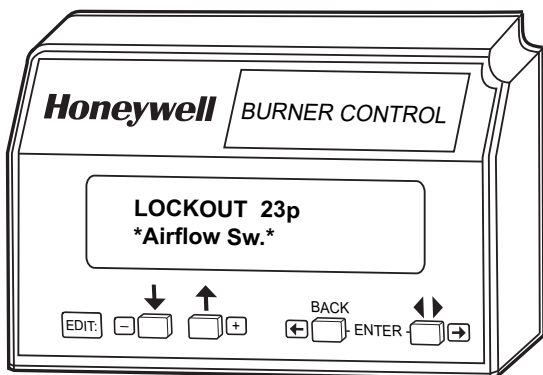

Fig. 16. Lockout message, State 1.
1. State 1 (Fig. 16). A first state message display lasts six seconds. First line displays the word LOCKOUT followed by the fault code number and possibly a lower case letter if an Expanded Annunciator is connected. The letter corresponds to the first-out code supplied by the Expanded Annunciator. The lockout reason corresponding to the fault code number is displayed on the second line, highlighted by asterisks on each side.